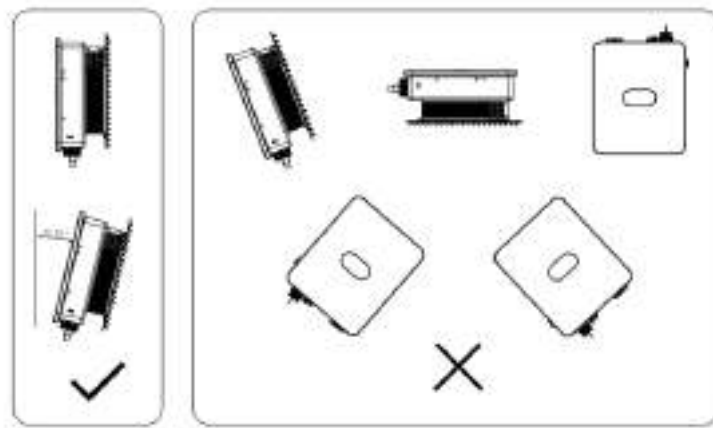

Fig. 4-6 Installation Location of Inverter
(4) The mounting surface should be upright (see Fig. 4-6). Install the inverter vertically or at a backward tilt of $\leq 15^\circ$ so as to facilitate heat dissipation. Forward tilt, horizontal installation, upside-down installation, backward tilt of $>15^\circ$ and sideways tilt are not allowed.